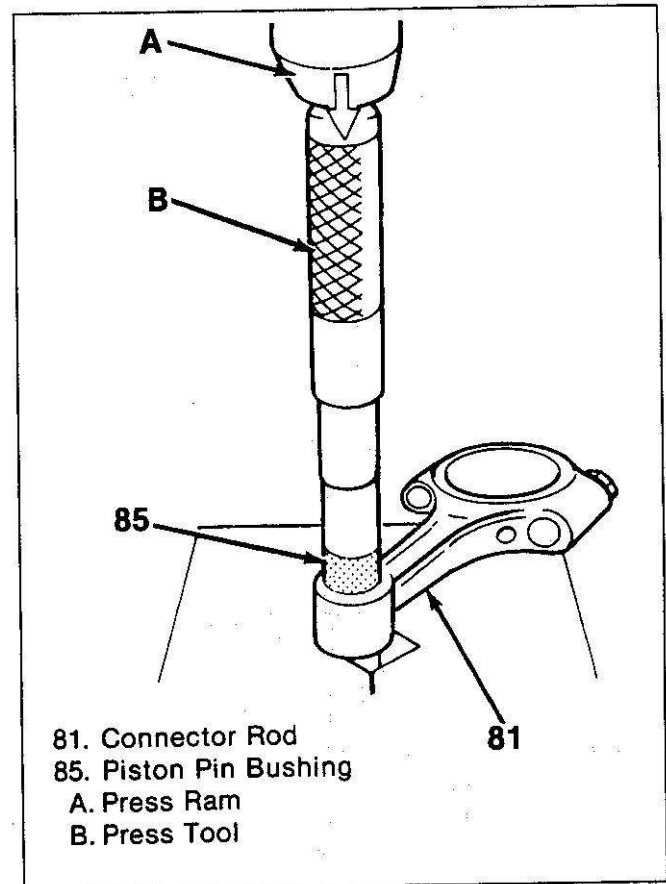

Figure 62. Removing or Installing the Piston Pin Bushing
Piston Pin Bushing Replacement (Figures 62 and 63)
2. Press out the old bushing, using a suitable press tool (figure 62).
3. Press the new bushing into place, using the press and press tool (figure 62). Be sure the oil holes in the bushing and connecting rod align.